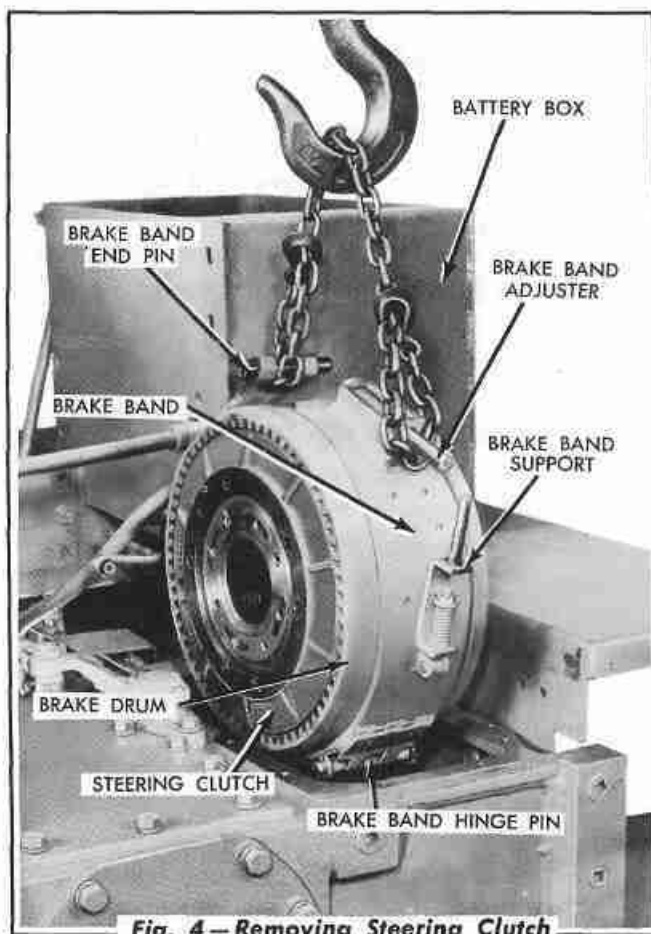

Fig. 4 - Removing Steering Clutch
9. Attach a chain to the brake band as shown in Fig. 4 and lift the steering clutch assembly from the steering clutch compartment. **NOTE:** Before lifting the clutch in this manner, turn the brake band on the brake drum so that the brake band adjuster is as far forward as possible. With the brake band turned in this position, the brake band support (at the rear of the band) will be turned forward far enough so that it will clear the top rear of the clutch housing as the steering clutch is lifted from the steering clutch compartment.